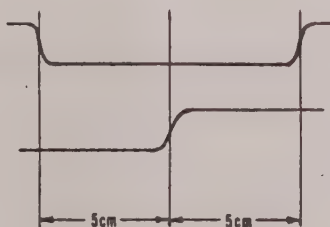

Figure 7: Clock Extractor Phase Adjustment
- d. Adjust the position controls and the TIME/CM vernier of the Oscilloscope to obtain the pattern of Figure 7, with the upper trace symmetrically positioned.